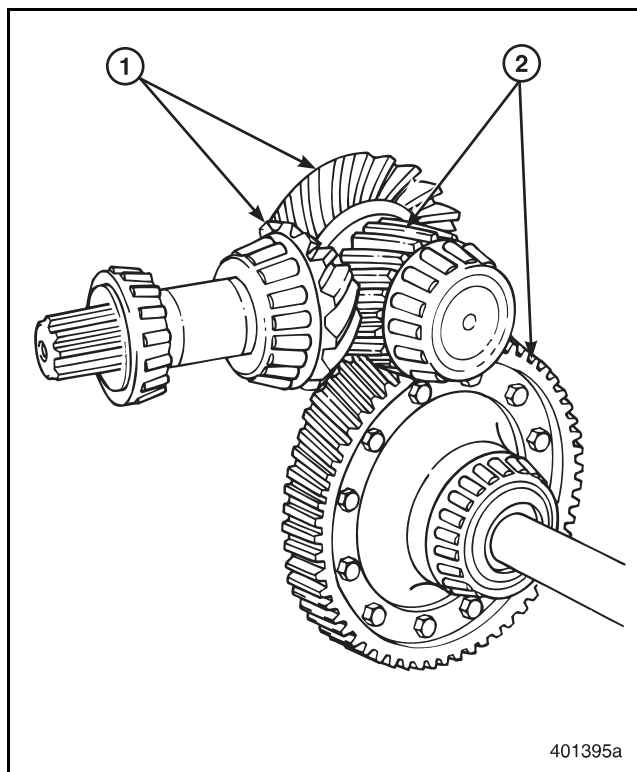

Figure 16 — Dual Reduction Carrier Gear Train
Drain the upper gear case. Remove the bevel gear compartment side access cover. Count the teeth of the bevel gear set (1) in each carrier. Refer to Figure 16.
If the bevel gear sets are compatible, drain the tandem axle housing and remove the carrier assemblies. Count the teeth of each helical pinion shaft and bull gear (2). Refer to Figure 16.